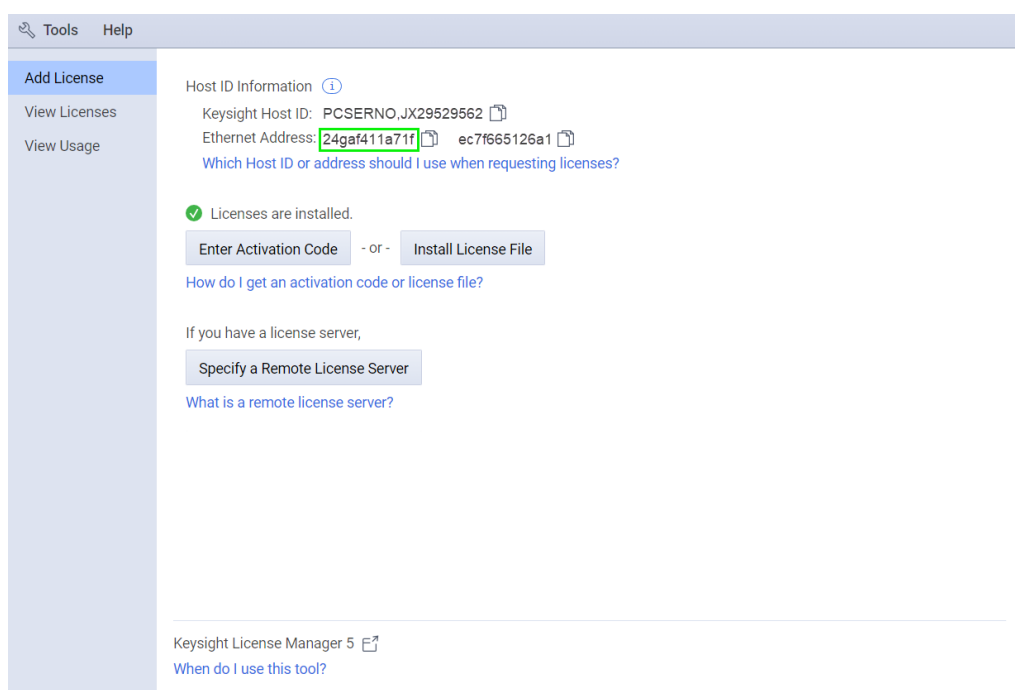

Figure 1 Viewing the Ethernet Address
- 2 Copy the **Ethernet Address**, which is a set of alphanumeric values (as highlighted in Figure 1) that appears in the **Add License** tab of the application.